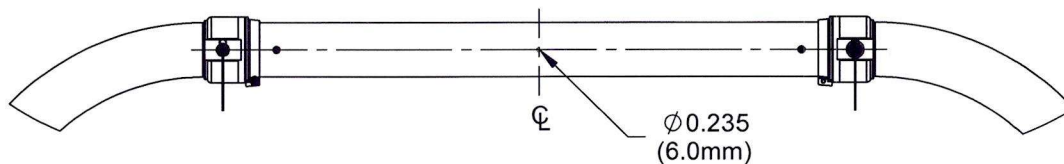

FIGURE 2: D135-1027-141/-143 FWD CROSTUBE
2.4 Drill 1x $\phi 0.236$ "-0.244" ($\phi 6.0$ -6.2 mm) hole in the middle of the aft side of the D135-1027-141/-143 Fwd Crosstube as shown in Figure 2 of this service instruction.